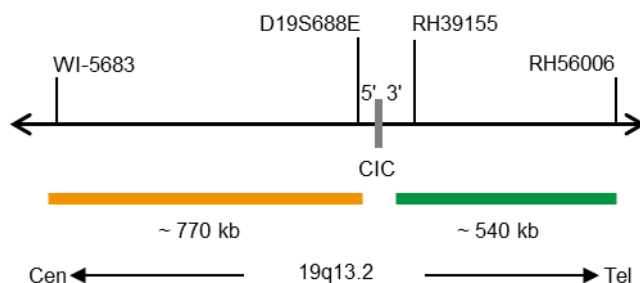

Fig. 1: SPEC CIC Probe map (not to scale)
- ZyGreen (excitation 503 nm/emission 528 nm) labeled polynucleotides (10 ng/μl), which target sequences mapping in 19q13.2* (chr19:42,835,047-43,374,575) distal to the CIC breakpoint region (see Fig. 1).
- ZyOrange (excitation 547 nm/emission at 572 nm) labeled polynucleotides (4.5 ng/μl), which target sequences mapping in 19q13.2* (chr19:41,980,301-42,751,339) proximal to the CIC breakpoint region (see Fig. 1).